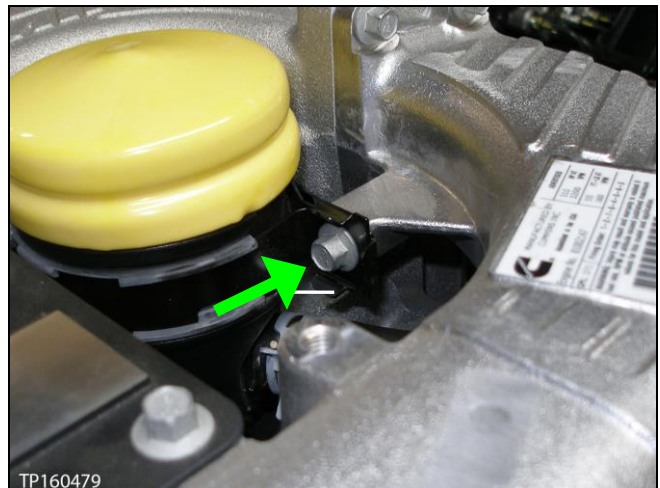

Figure 86
30. Install the air inlet connection bolt (see Figure 86).